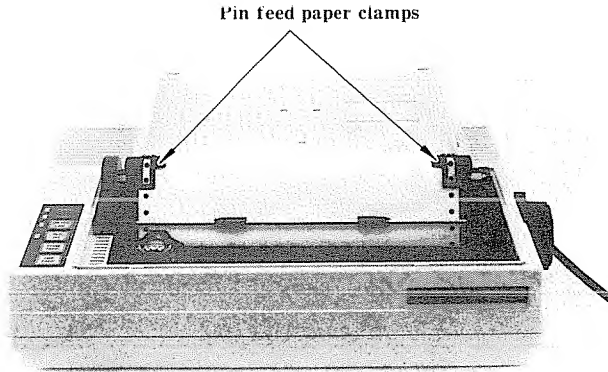

Figure 9
5. Adjust the pin feed paper clamp positions for the width of the paper. Refer to Figure 9.